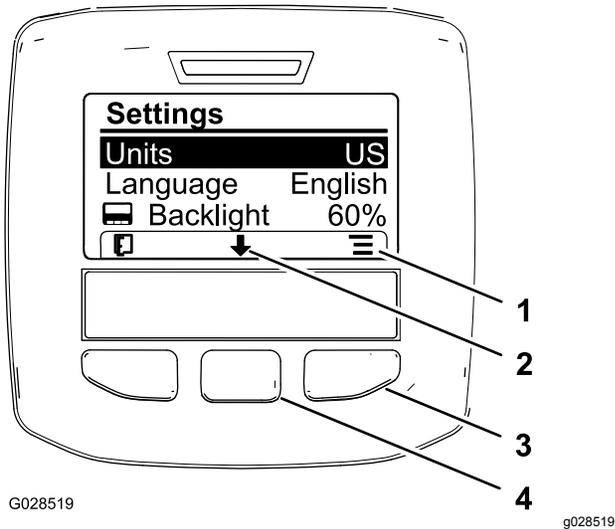

Figure 9
- To change the unit of measure, use the middle selection button to scroll to the UNITS option Figure 9.
- Press the right selection button to change the listed units of measure (Figure 9).
- To change the language used in the display, pressing the center selection button (the button below the down arrow in the display) to move the selected option to Language (Figure 9).
- Press the right selection button (the button below the list icon in the display) to highlight the listed language used in the display (Figure 9).